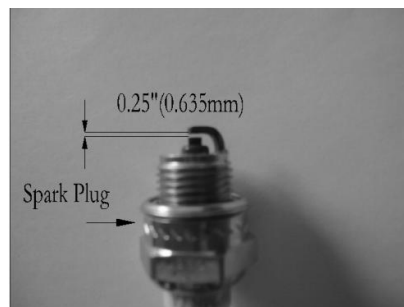

Fig.19
2. To remove spark plug (Fig.19) for cleaning or replacement: Make sure engine is off, spark plug is cool, then grasp spark plug boot firmly and remove from spark plug. Remove spark plug with correct spark plug tool. Inspect, clean or replace as needed.
3. Spark plug gap =.025 in (.635mm) (Fig.19).
3. Clean and gap spark plug or install a new spark plug with proper gap (Fig.19).